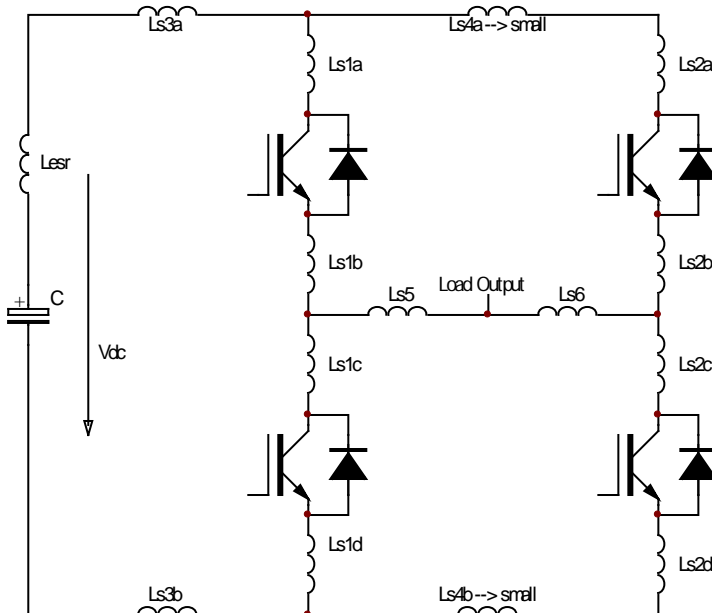

Fig. 3: Half-bridge topology with stray inductances
- The converter should be constructed as symmetrically as possible with respect to the paralleled IGBT modules in order to ensure symmetrical operation. In particular, the DC-link stray inductance of each paralleled IGBT module should be similar ($Ls1 \approx Ls2$, $Ls5 \approx Ls6$ in Fig. 3).